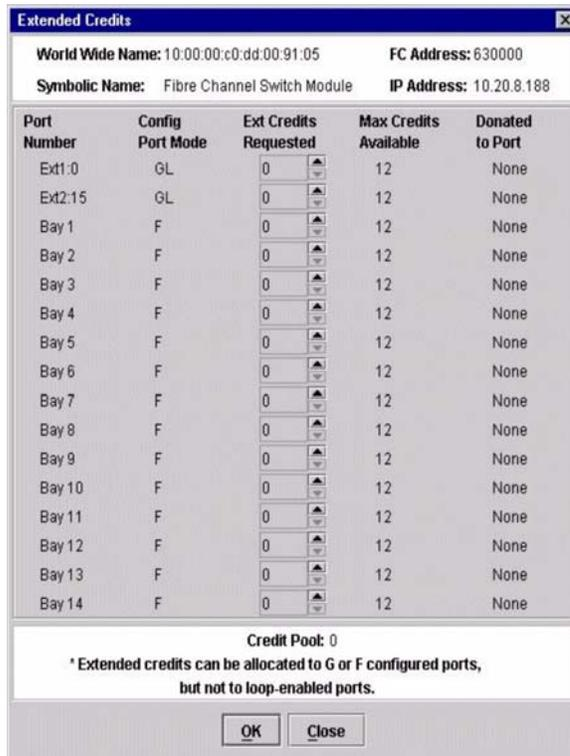

Figure 20. Extended Credits window
2. In the Faceplate window, select the recipient port. Recipient ports must be external ports configured as G\_Ports or F\_Ports. Click **Port / Extended Credits**. The Extended Credits window opens as shown in Figure 20